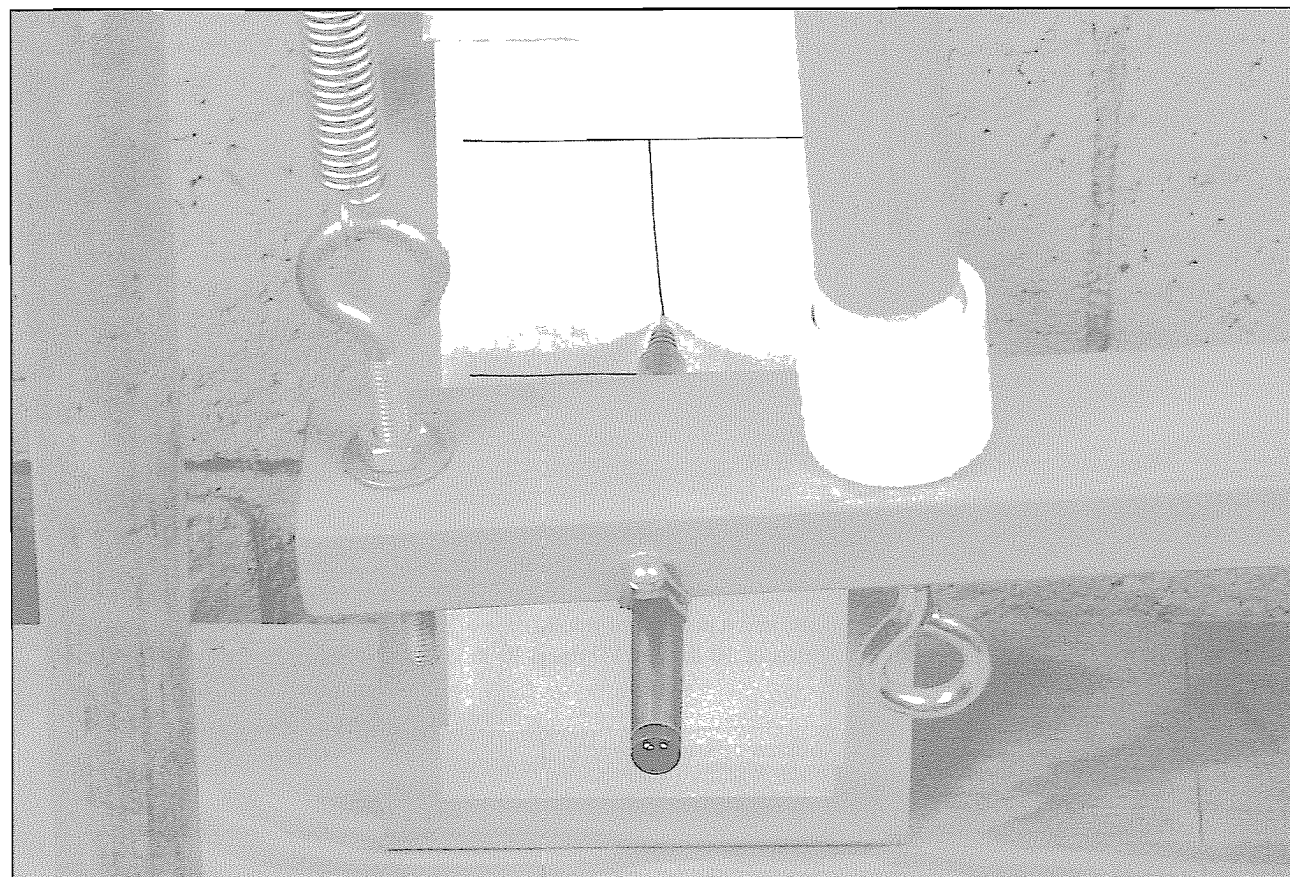

Figure 18-15. As the rocket motor fires, it pushes down on the arm, and the pen makes a vertical streak on the paper.
6. Slide the paper away from the pen, and remove the bucket, the hooks, and the chain. Slide the paper against the pen one more time. Then retire to a safe distance, and fire the rocket motor with an electric igniter. As the motor fires, it will push down on the thrust arm, and cause the pen to make a vertical streak on the paper (Figure 18-15). When the test is finished, remove the paper from the sheet metal holder, and take it to your desk for analysis.